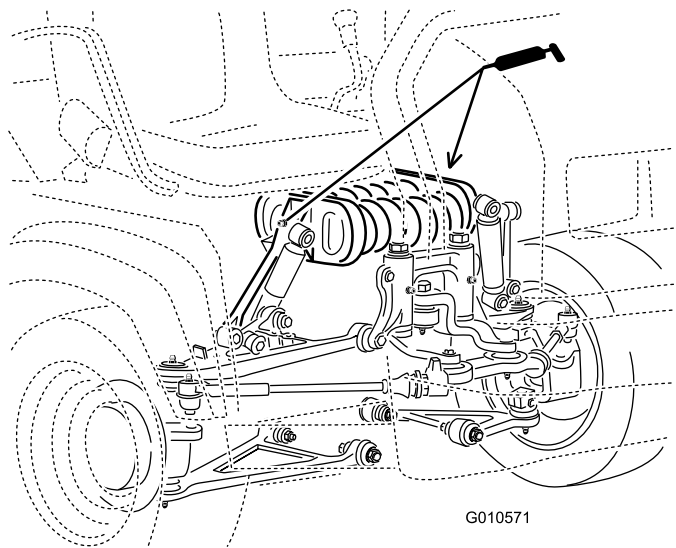

Figure 37
- Tour de ressort (2) (Figure 37)